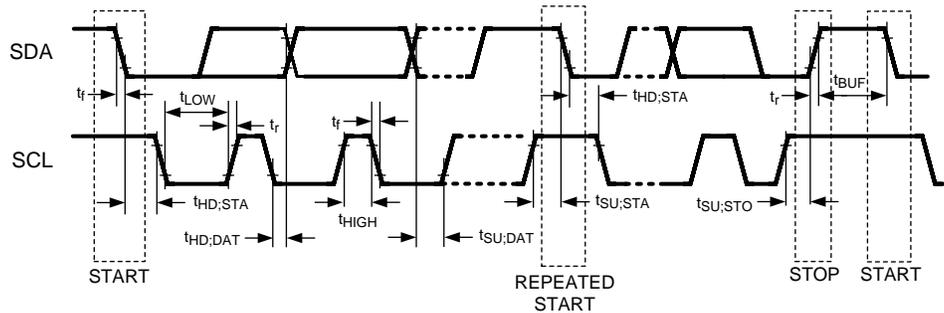

Figure 1. Serial Control Bus Timing
(1) Recommended Input Timing Requirements are input specifications and not tested in production.
6.7 Serial Control Bus AC Timing Specifications (SCL, SDA) - I²C Compliant (See Figure 1)